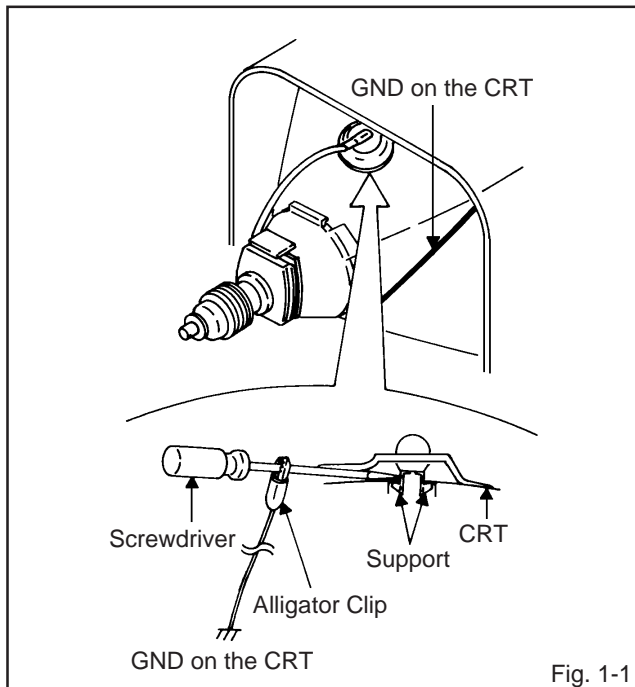

Fig. 1-1
1. Follow the steps as follows to discharge the Anode Cap. **(Refer to Fig. 1-1)**